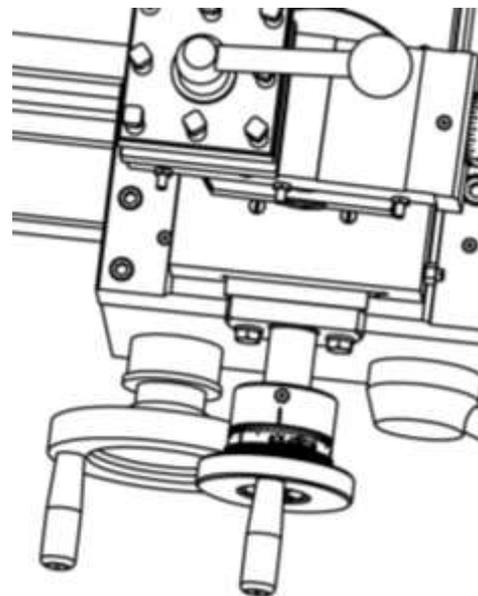

Figure 13 .Cross Slide.
2. Hold the handwheel still and turn the scale so the "0" mark lines up with the "0.000" mark on the cross slide, as shown in **Figure 13**. As long as you avoid backlash by continuing to move the cross slide in the same direction, the scale on the handwheel will be accurate.